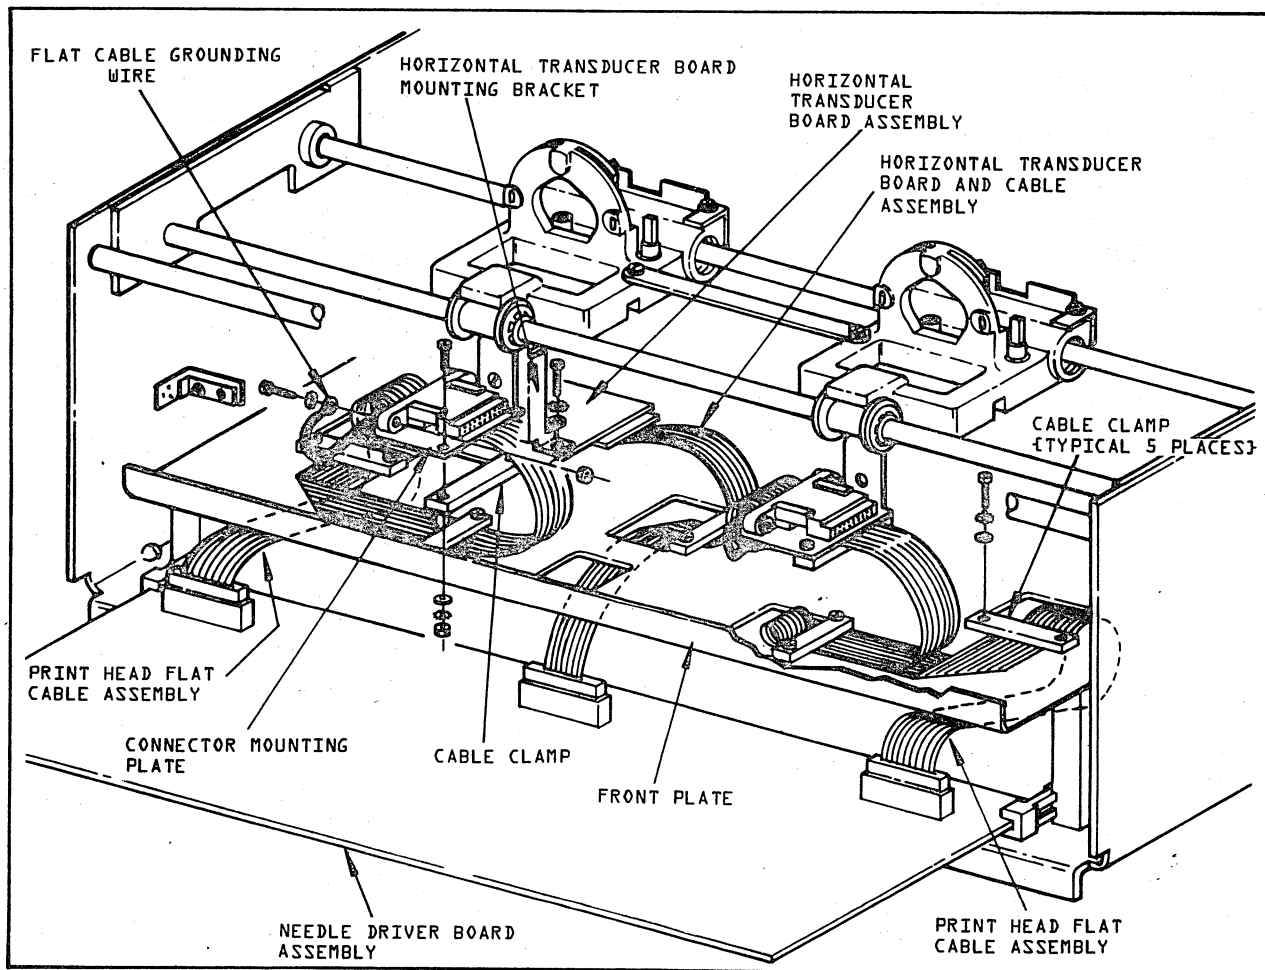

FIGURE 8-2. PRINT HEAD FLAT CABLE ASSEMBLY REPLACEMENT, AND HORIZONTAL TRANSDUCER BOARD AND CABLE ASSEMBLY REPLACEMENT.
Removal (Figure 8-2)
Installation (Figure 8-2)
2. Reversing the removal procedure, mount and clamp the new horizontal transducer board and cable assembly in place. Use Figure 8-2 to aid in cable routing.